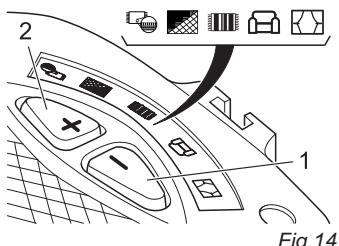

Fig. 14
You can adjust the suction power to suit the type of floor being cleaned. Use the symbols on the suction power display as a guideline (Fig. 14/1):
- **+ button (Fig. 14/2)**
- **- button (Fig. 14/3)**